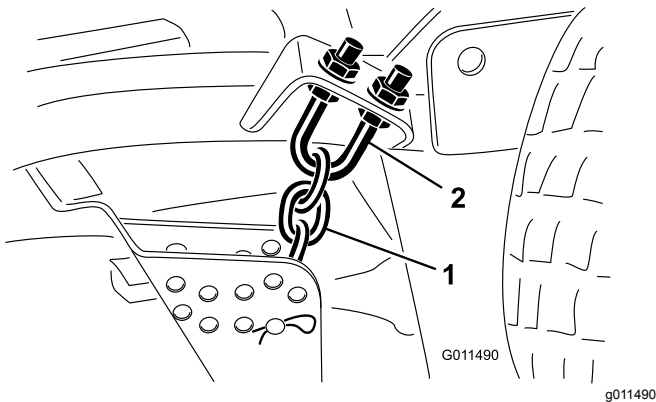

Figure 100
1. Loosen the jam nuts on the top or bottom of the height-of-cut-chain U-bolt (Figure 100).